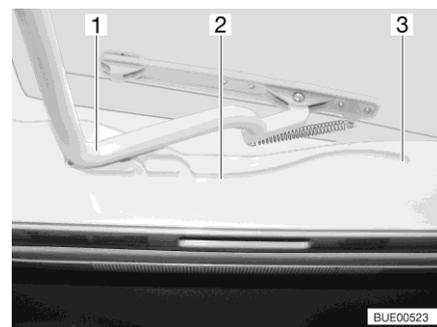

Fig. 34 Guide (hinged skylight)
- Pull the bar (Fig. 34,1) in the guides (Fig. 34,2) to the rearmost position (Fig. 34,3).
- Use both hands to push the bar (Fig. 34,1) slightly upwards.
- Pull the bar in the guides (Fig. 34,2) to the desired position.